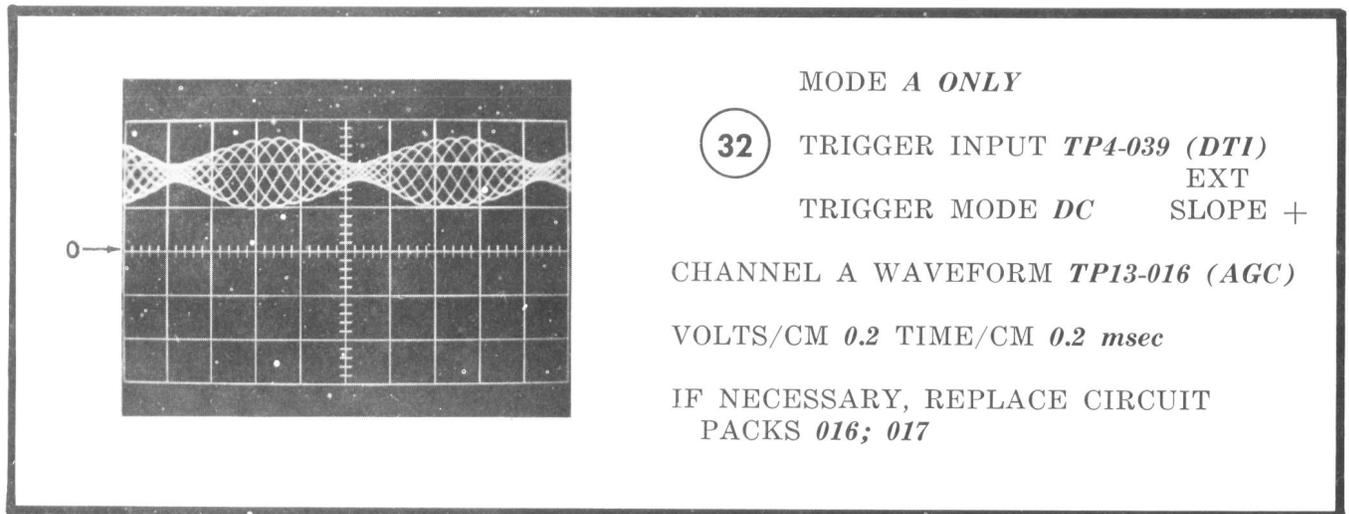

Fig. 27 — Analog Receiver Test
9.28 Voltage and waveform requirements shown in Fig. 27 through Fig. 29 are keyed to the functional schematic shown in Fig. 30. The waveforms are examples of normal operation for various code combinations the receiver will convert.